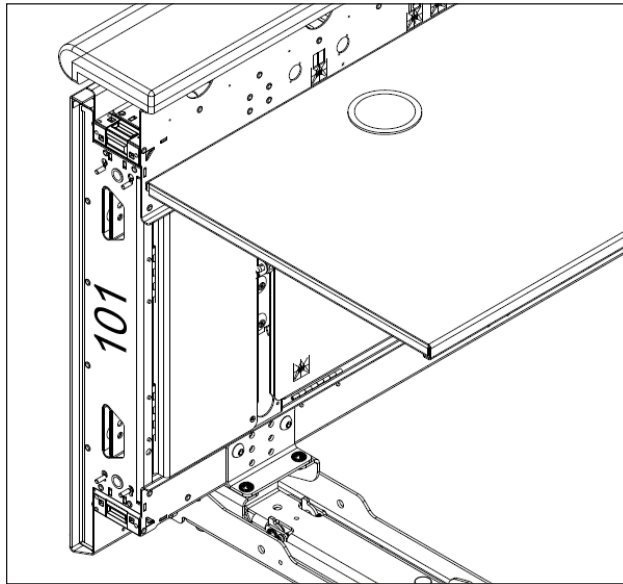

Figure 33: Section Number Label Location
1. Locate the section number on either side of the table. Refer to **Figure 33**. The farthest right table (when viewed from the rear) will typically be labeled "101", then the next table to its left will be "102", and so on.